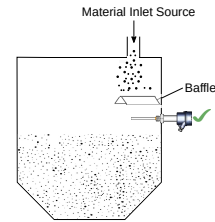

Figure 47: Casper with Baffle
- For side-mounting, provide a baffle to prevent the material from falling on the probe. Please refer to Figure 47.